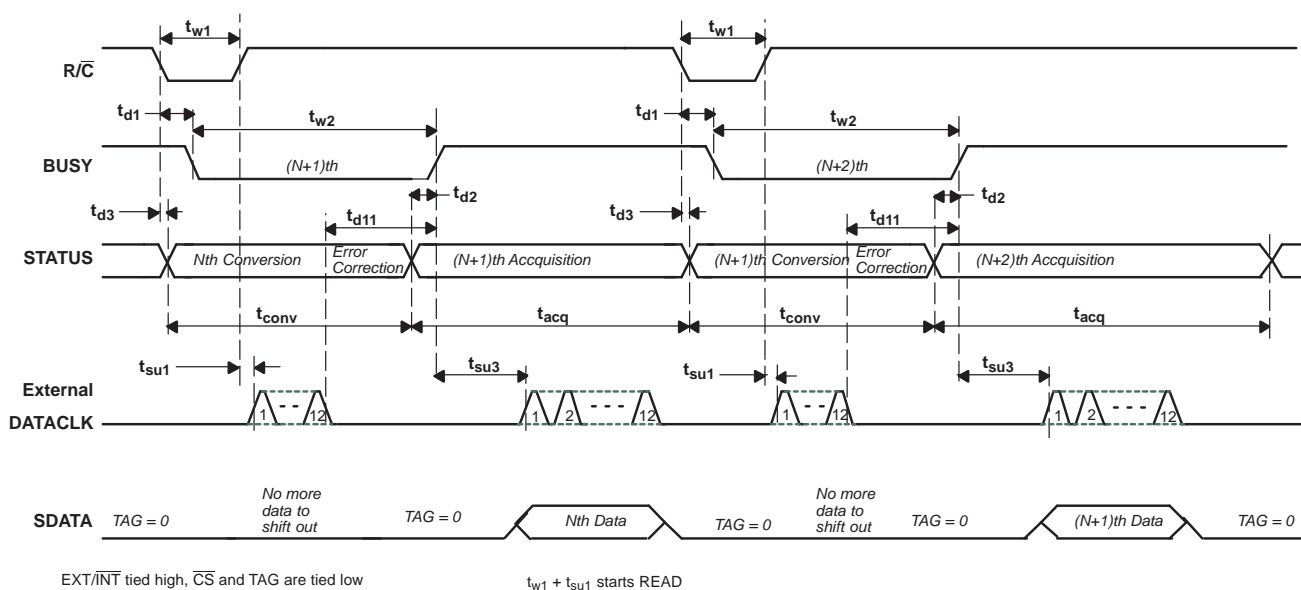
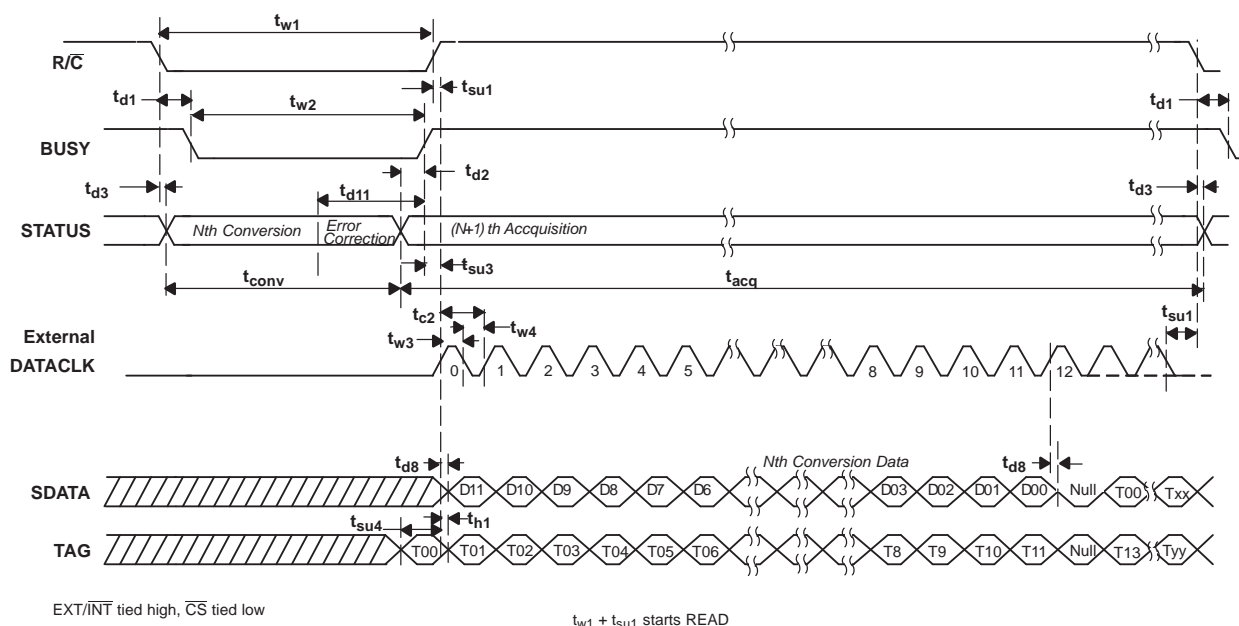
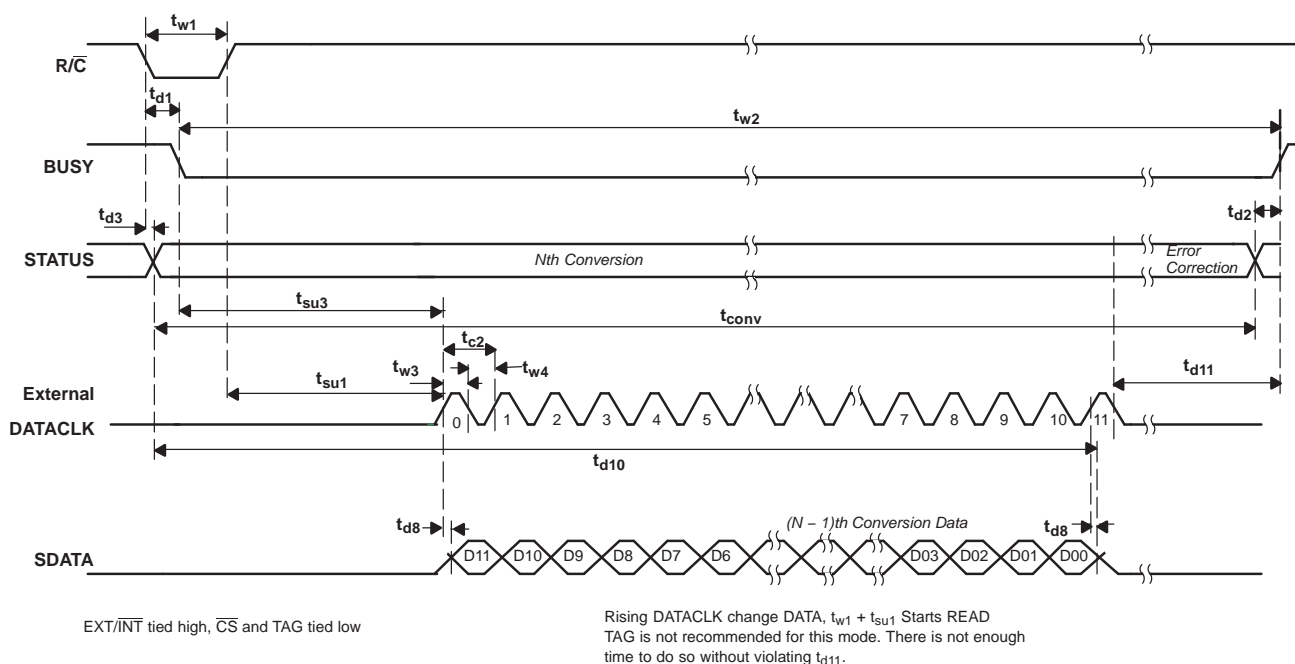

Figure 37. Basic Conversion Timing - External DATACLK
Figure 38. Read After Conversion (Discontinuous External DATACLK)
Figure 39. Read During Conversion (Discontinuous External DATACLK)
(1) See Figure 37, Figure 38, and Figure 39 for constraints on data valid from conversion $N-1$.
After conversion N is completed and the output registers have been updated, $\overline{\text{BUSY}}$ (pin 24) goes high. With $\overline{\text{CS}}$ low and $\text{R}/\overline{\text{C}}$ high, valid data from conversion N is output on SDATA (pin 19) synchronized to the external data clock input on DATACLK (pin 18). The MSB is valid on the first falling edge and the second rising edge of the external data clock. The LSB is valid on the 12th falling edge and 13th rising edge of the data clock. TAG (pin 20) inputs a bit of data for every external clock pulse. The first bit input on TAG is valid on SDATA on the 13th falling edge and the 14th rising edge of DATACLK ; the second input bit is valid on the 14th falling edge and the 15th rising edge, etc. With a continuous data clock, TAG data is output on SDATA until the internal output registers are updated with the results from the next conversion. Refer to Table 6 and Figure 38.
After conversion N has been initiated, valid data from conversion $N-1$ can be read and is valid up to 12 μs after the start of conversion N . Do not attempt to clock out data from 12 μs after the start of conversion N until BUSY (pin 24) rises; this results in data loss. NOTE: For the best possible performance when using an external data clock, data should not be clocked out during a conversion. The switching noise of the asynchronous data clock can cause digital feedthrough degrading the converter's performance. Refer to Table 6 and Figure 39.